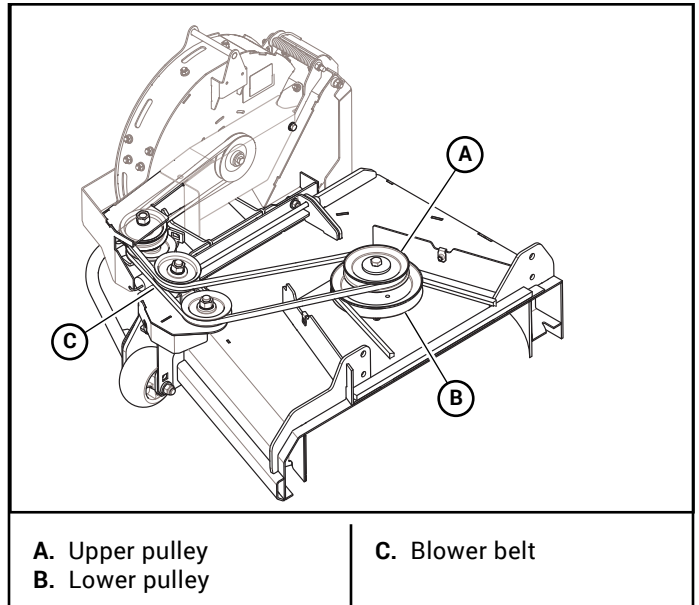

Figure 3-5
12. Install and route the blower belt around the blower pulleys and the upper pulley on the double pulley. This belt is self-tensioning. Figure 3-5